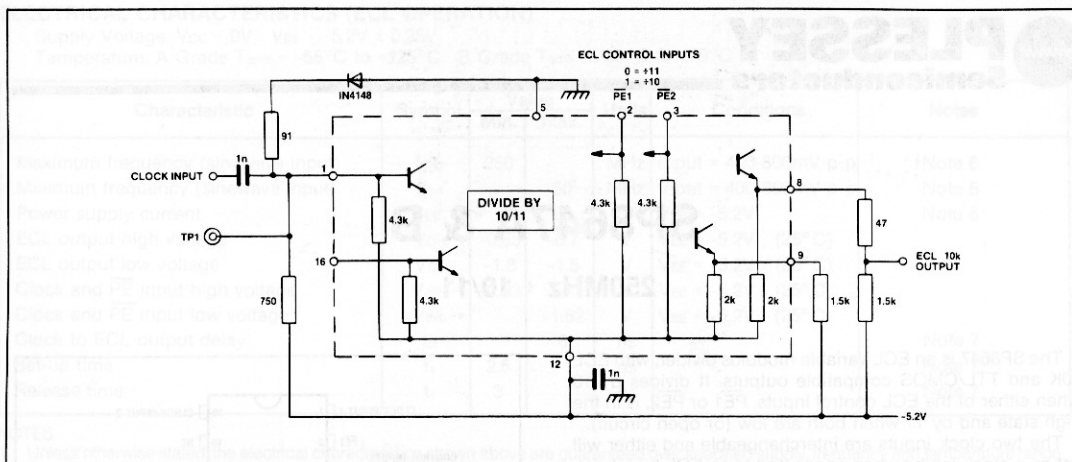

Fig.7 Typical application using ECL outputs. NB Voltage at TP1 should be $-1.3V$ at $25^{\circ}C$
2. The outputs are compatible with ECL II but can be interfaced to ECL 10K as shown in Fig. 7.